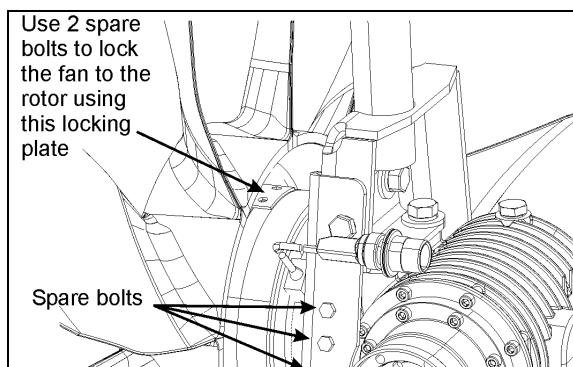

FIGURE 27: MECHANICAL LOCKING
5. Screw in and tighten the spare bolts (Fig. 27).